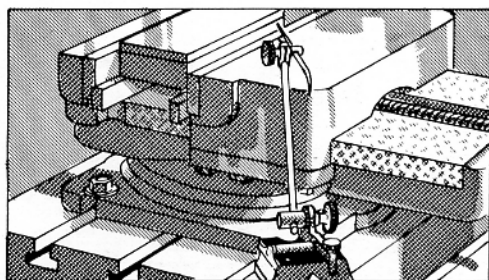

FIG. 302
5. Scribe a line on the side of the casting from which the cut is to be started. Draw the base of the surface gage across the top of the vise jaw. At the same time, keep the scribe in contact with the side of the work (Fig. 302).